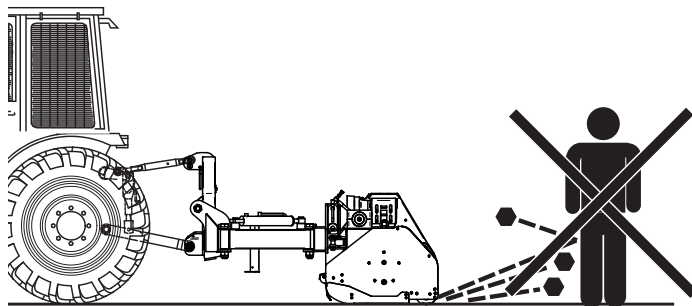

Fig. 24
- ensure that no other person is in the vicinity of the working area of the shredder (Fig.24);